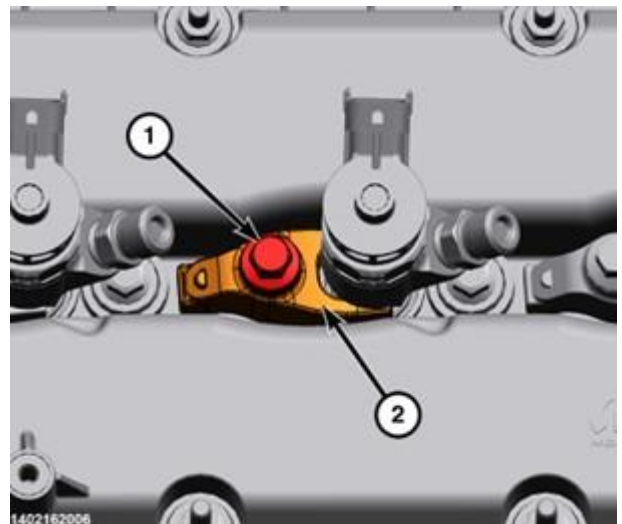

Figure 149– Fuel Injector Bolt and Clamp
- 95. Install the fuel injector clamp (2) and tighten the bolt (1) to 33 N·m (24 ft. lbs.). Repeat for all injectors (Figure 149).